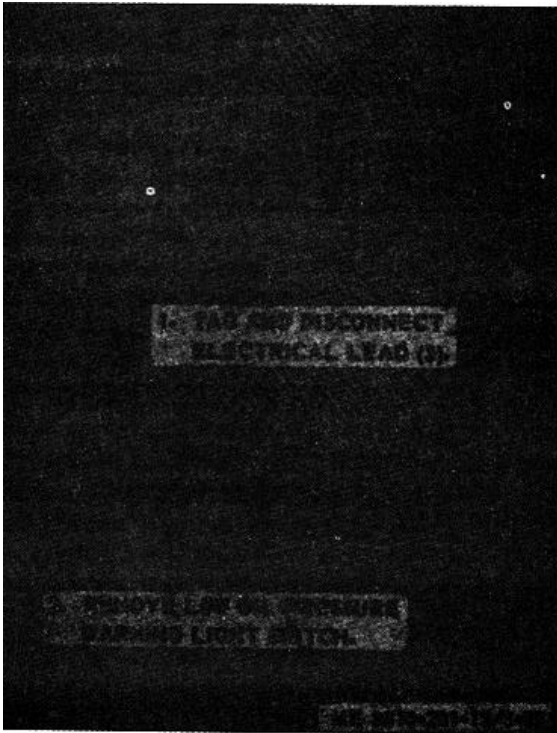

Figure 3-69. Low oil pressure switch removal and installation.
(1) Refer to figure 3-69, tag and disconnect three electrical leads, then remove low oil pressure switch from engine model 687C18ES. Install in reverse order.
(2) Remove low oil pressure switch from engines model DB83TA in a manner similar to that given in (1) above.